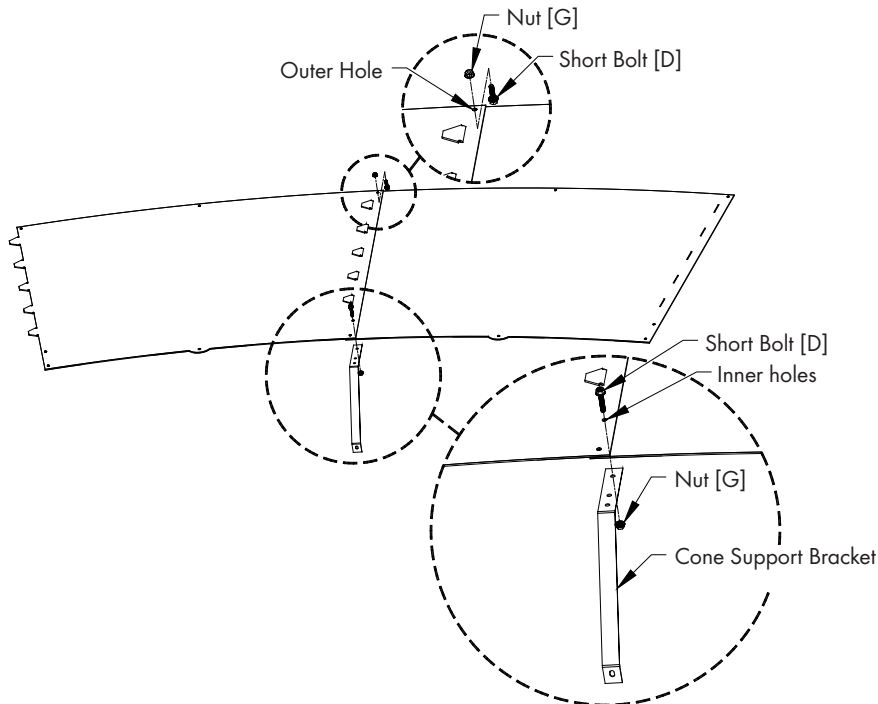

Figure 15A
Fasten each of the joints in the single outer hole using (1) Short Bolt [D] and Nut [G], with the nut on the side with the tabs. At the inner pair of holes of each joint attach (1) Cone Support Bracket to the inner hole using (1) Short Bolt [D] and Nut [G] with the bolt head on the side with the tabs. See Figure 15A.